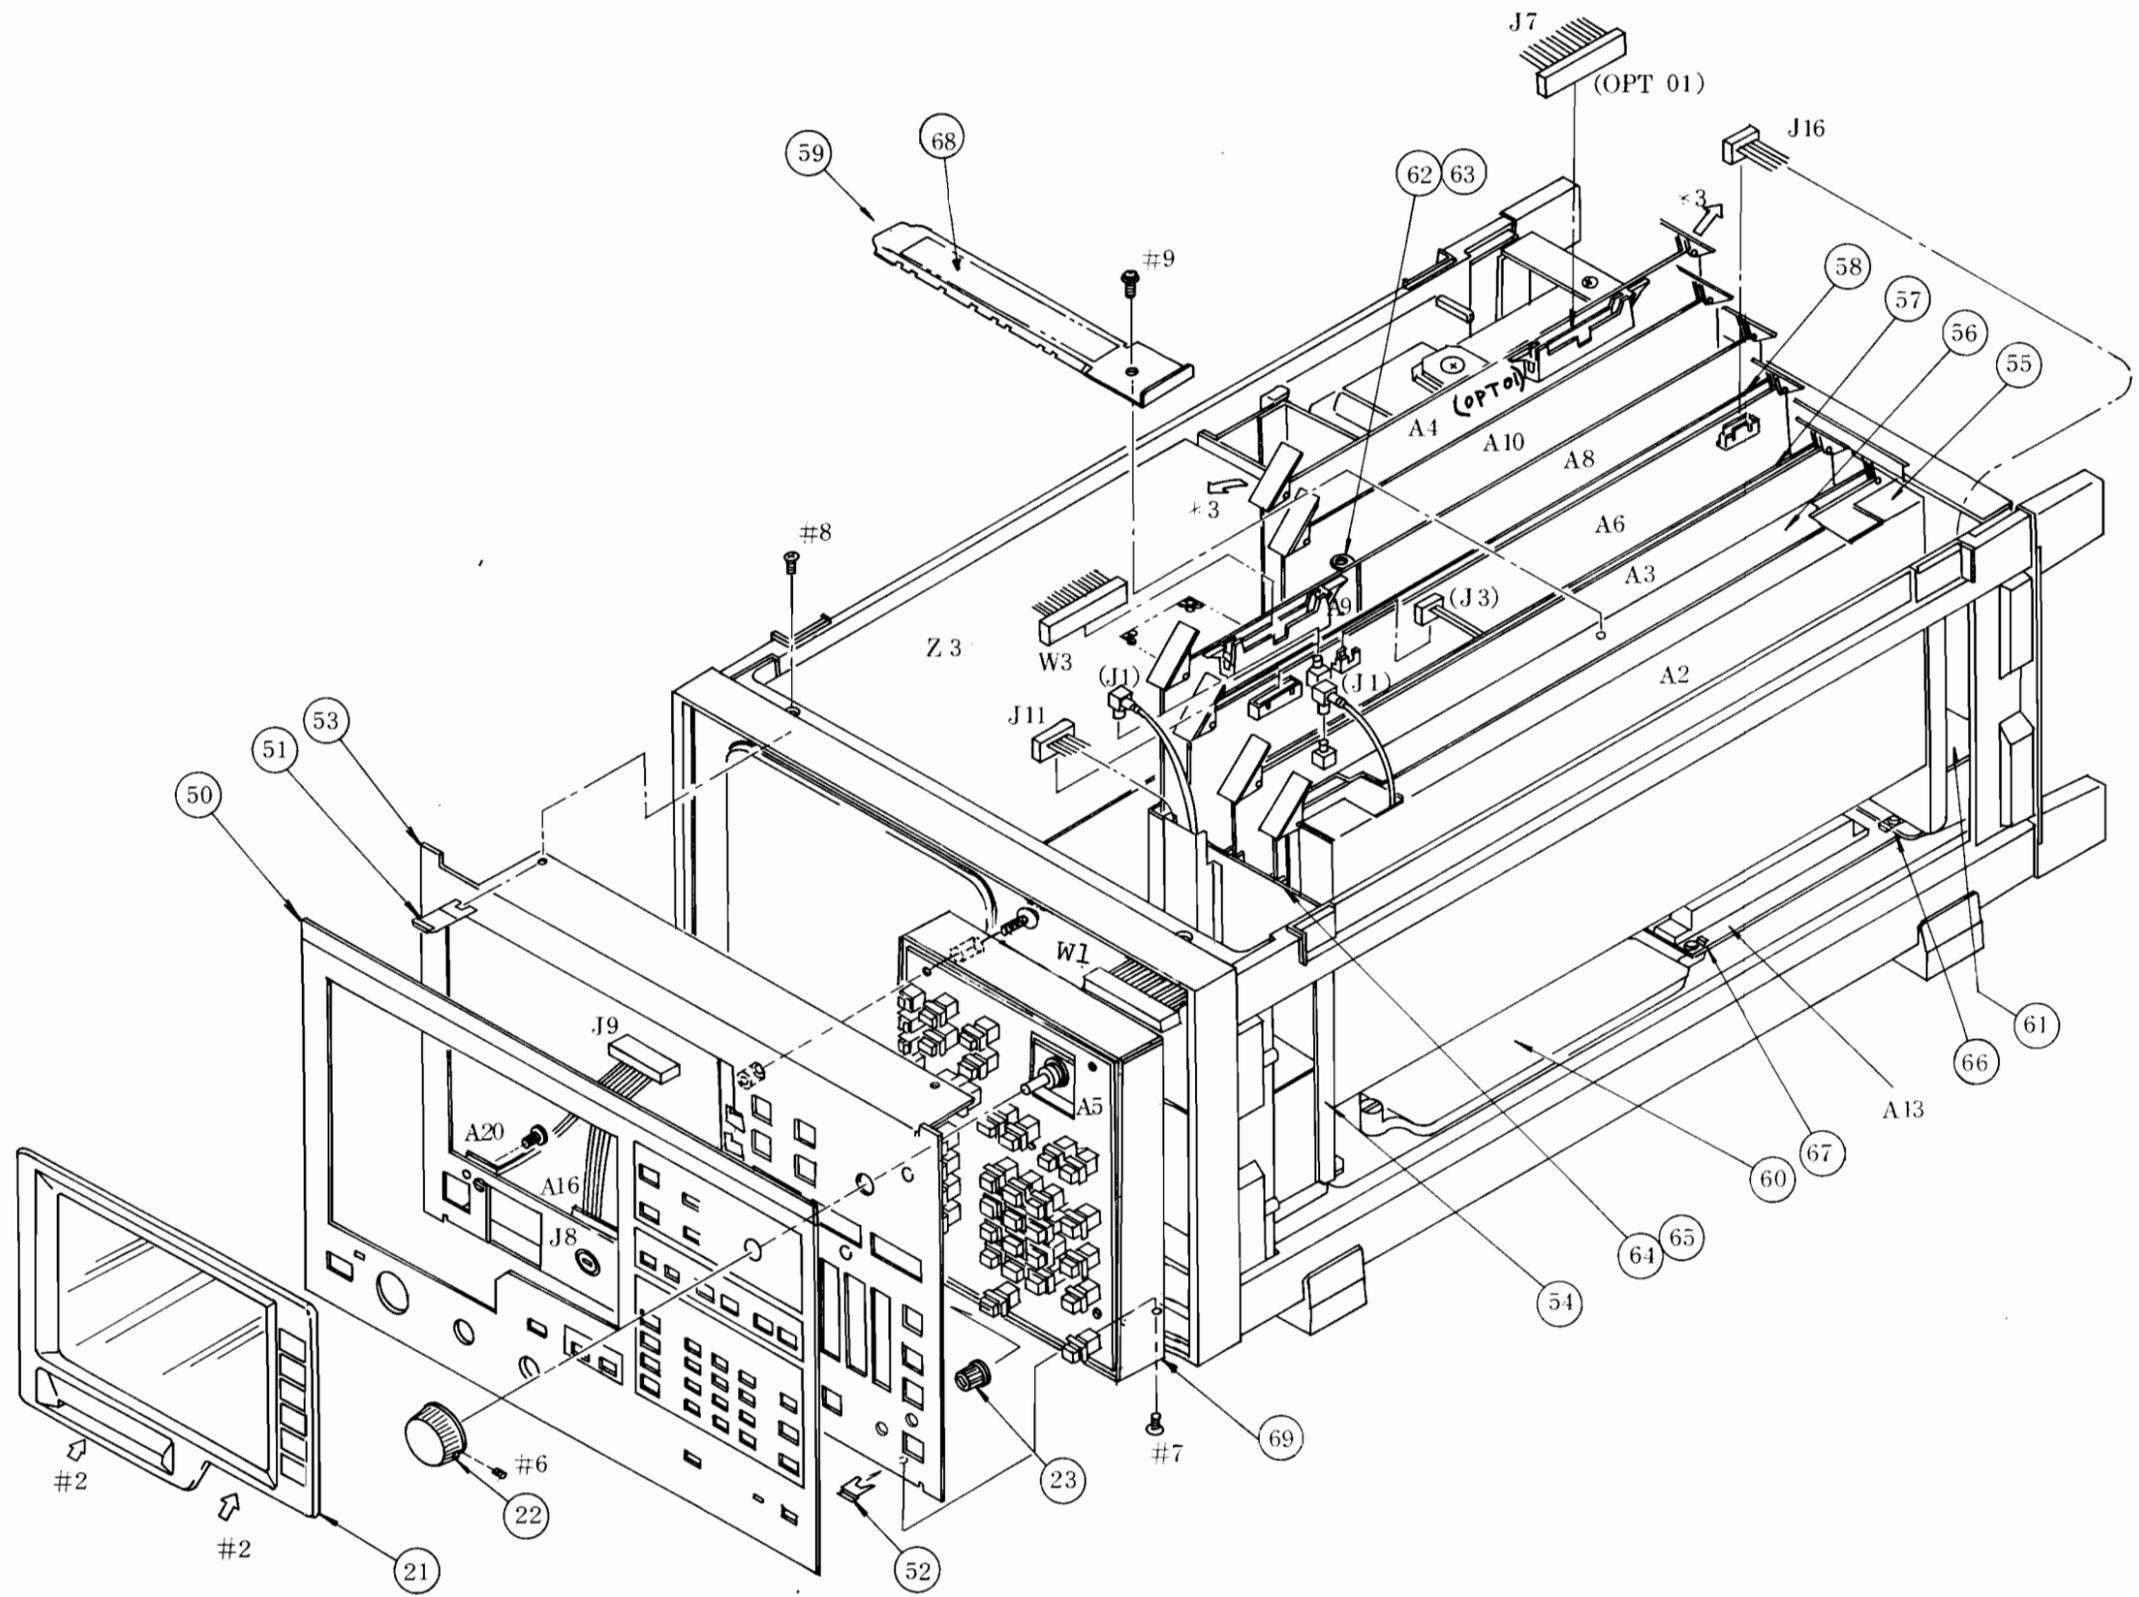
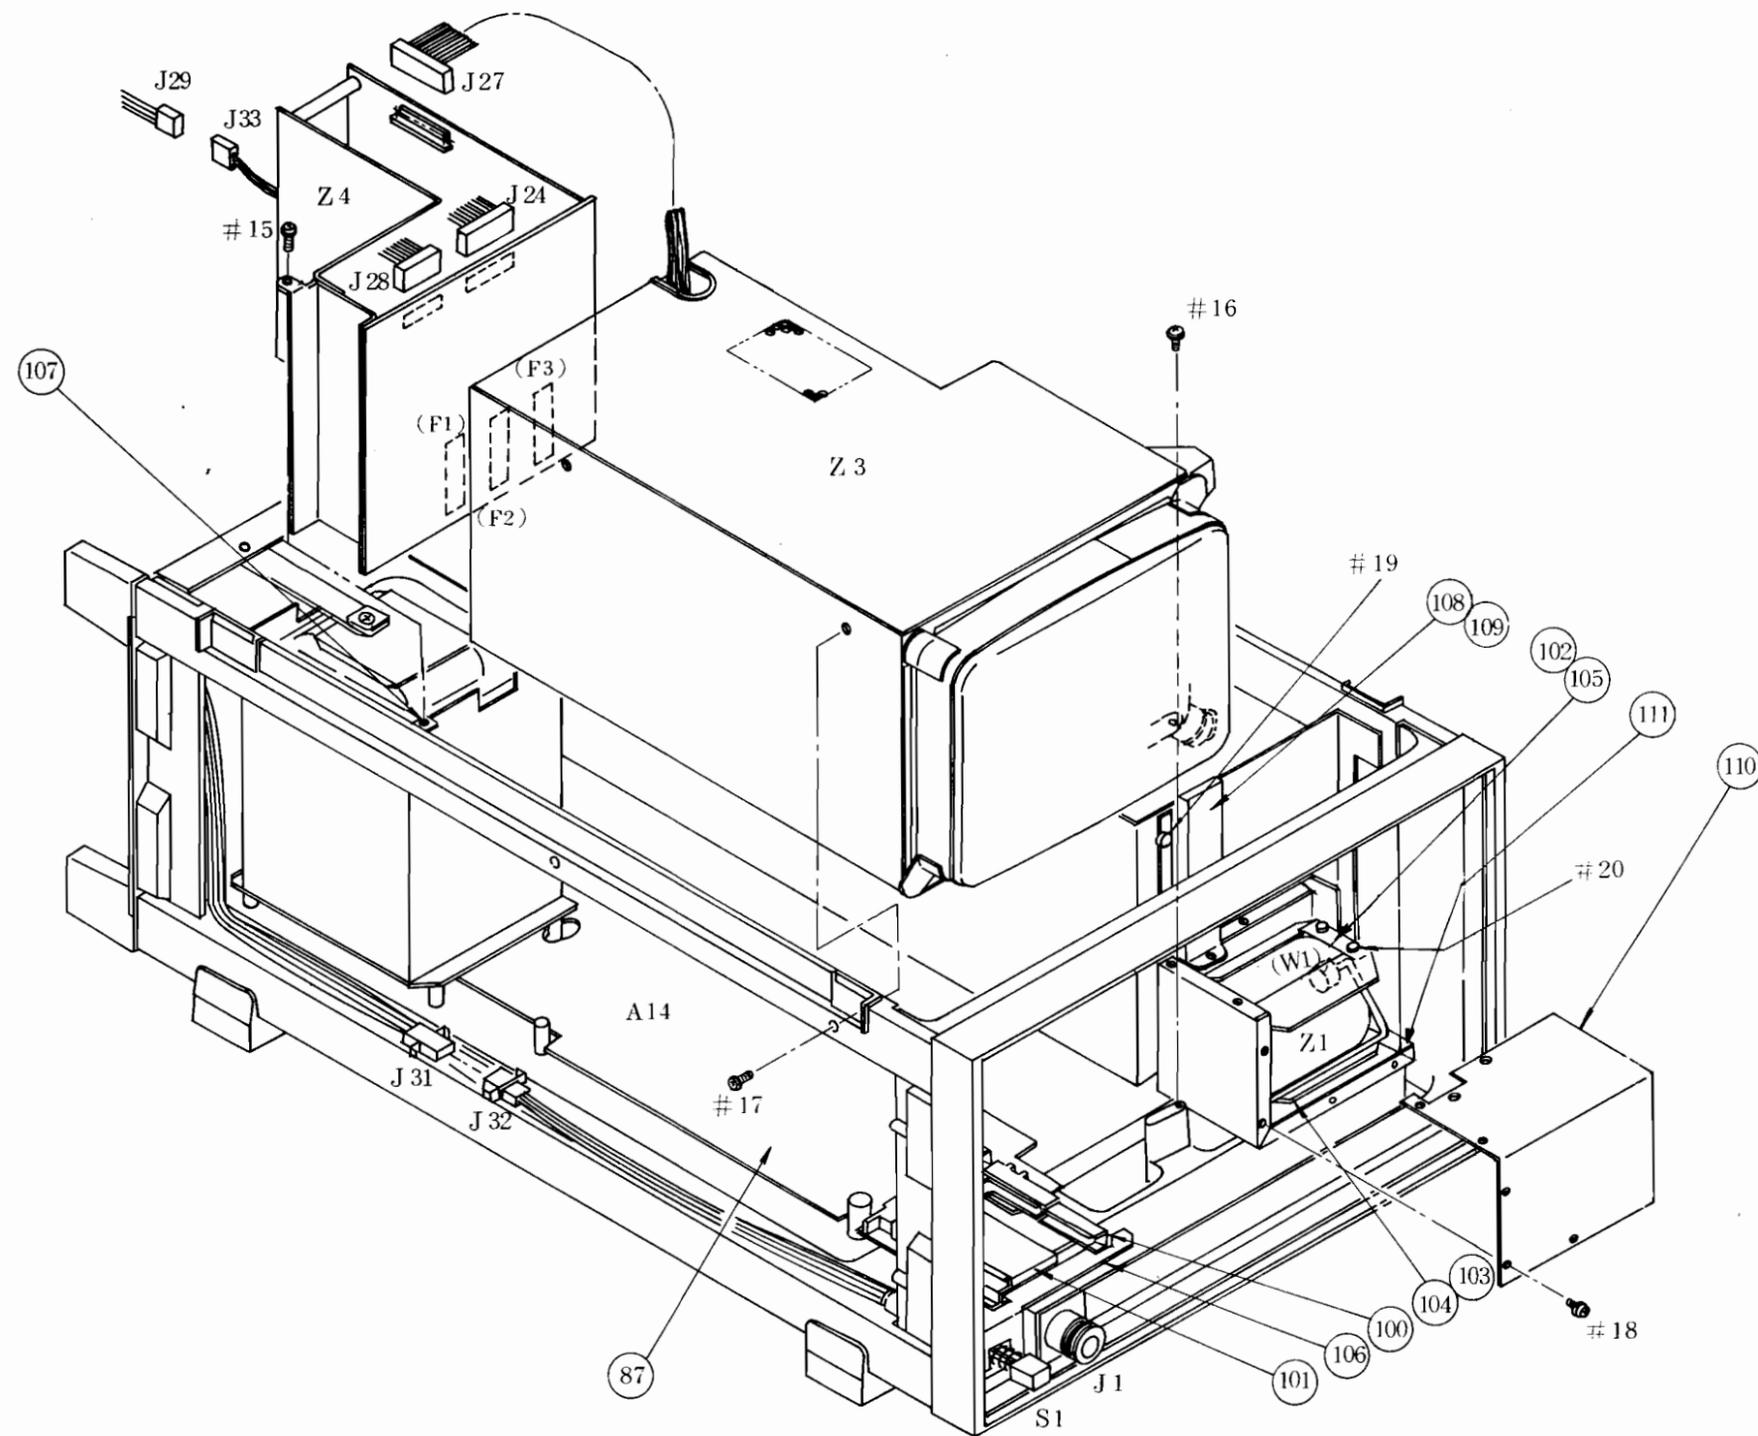

Fig. 2-3 Front Panel/Main Unit
Fig. 2-5 Z3 CRT Unit, Z4 REGULATOR Unit,
1	Remove the CRT cover (21) by pulling it toward you while lifting the part marked with *2 with both hands. (See Fig. 2-3.)
1	Remove two screws #7 at the bottom and two screws at the top by referring to Fig. 2-3 and remove both clamps (51) and (52) .
To remove the above-mentioned unit, remove the top cover (5) as described in paragraph 2.2 and follow the procedures described below. (See Fig. 2-3)
3	Lift the ejector at both sides of the unit as shown in *3 (Fig. 2-3).
The following paragraph describes how to remove the REGULATOR unit and CRT unit with reference to Fig. 2-5.
3	Remove the screw #15 by referring to Fig. 2-5.
2	Remove the Z1 YTO by following the below procedures and referring to Fig. 2-5. <ol style="list-style-type: none"><li data-bbox="328 491 1219 527">1) Remove the screw #18 and the cover (110) .<li data-bbox="328 559 1315 595">2) Remove the screw #19 and the upper case (108) .<li data-bbox="328 627 1257 663">3) Remove the screw #20 and the bracket (105) .<li data-bbox="328 695 1337 770">4) Remove the support (102) and move the Z1 YTO to the left to remove the W1 connector.<li data-bbox="328 802 847 838">5) Remove J11 (Fig. 2-3).
Table 2-3 Mechanical Parts List for Fig. 2-3